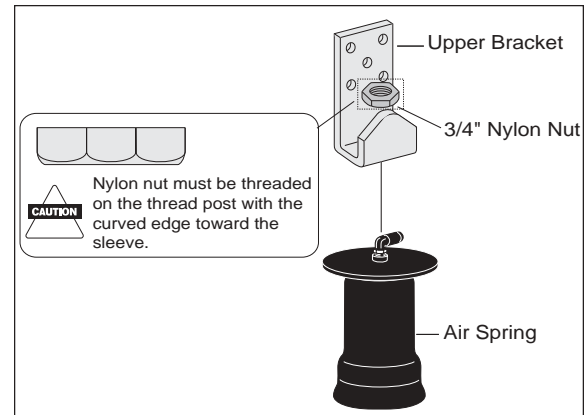

Figure 2
3. Thread nylon nut (K) onto the thread post, making sure that the flat side is up (Figure 2).